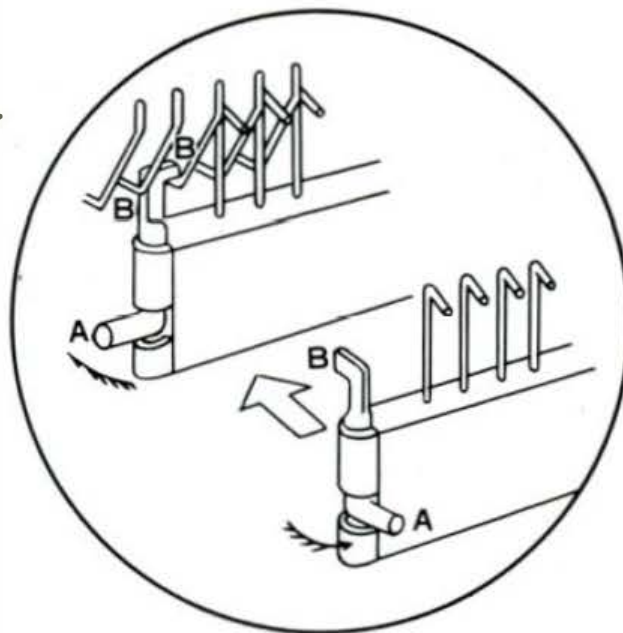

Fig. 24
3. Place hooks between pegs of needle bed as far up as possible. (See Fig. 24)